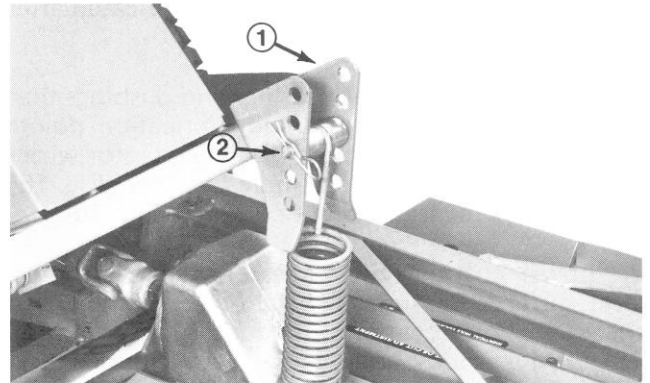

Figure 16
1. Leave the spring in the center bracket hole and operate the mower in the area it will normally be used (Fig. 16).
3. Relieve spring tension by lowering the clevis pin one hole lower in the bracket (Fig. 16).
4. Check the units performance in the turf. If the unit still raises, stop machine and repeat item 2 and 3. Repeat until unit operates satisfactorily. If cutting unit operates satisfactorily, continue normal operation.
operate acceptably during the initial operating check, it is still advisable to stop, engage parking brake, be sure traction pedal is in neutral, raise the cutting unit, stop the engine and raise the clevis pin one hole to increase spring tension (Fig. 16).
stays down on the turf, repeat item 5. Repeat until unit raises during operation, then decrease spring tension by lowering the clevis pin one hole in the bracket (Fig. 16).